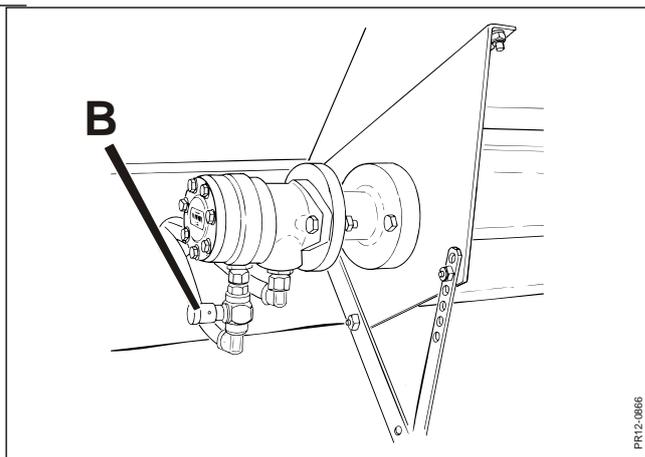

Fig. 5.11
**Fig. 5.11** The elevator is folded out with the handle (A). See also fig. 12. However, it is not necessary to fold out the elevator completely to unload, but the elevator capacity will be reduced, when it is in a very steep position, so we recommend folding it down as much as possible.